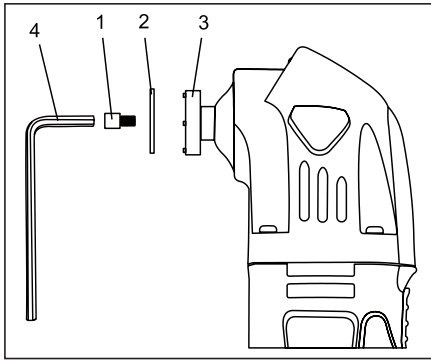

Fig. 1
1. Remove the blade screw (1) and washer (2) from the accessory holder (3) by turning the screw counter clockwise. Use the 5 mm Hex key (4) if the screw is too tight to be removed by hand (Fig. 1).